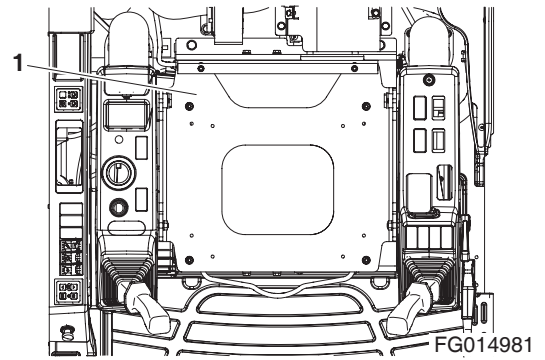

Figure 5
17. Disconnect air conditioner harness connection inside the seat base (1, Figure 5) under seat.